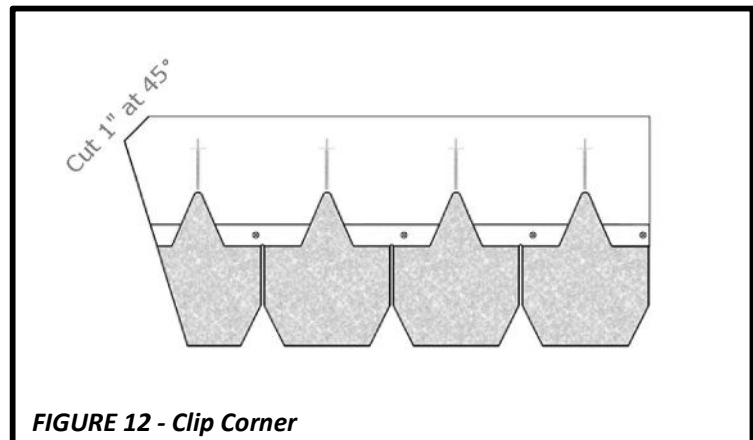

FIGURE 12 - Clip Corner
- **SHINGLES** - Trim a **1" (25mm) 45° angle cut** from the top of the shingle in the valley. See **Figure 12**. Seal valley shingles to the metal by applying two parallel **1/2" (12.7mm) diameter beads** that are 1" apart of FWAVE approved sealant and adhesive (see **Table 1**). Trim the shingles at the valley to form either an **OPEN VALLEY** or **CLOSED VALLEY ALTERNATIVE** as outlined in the following sections.